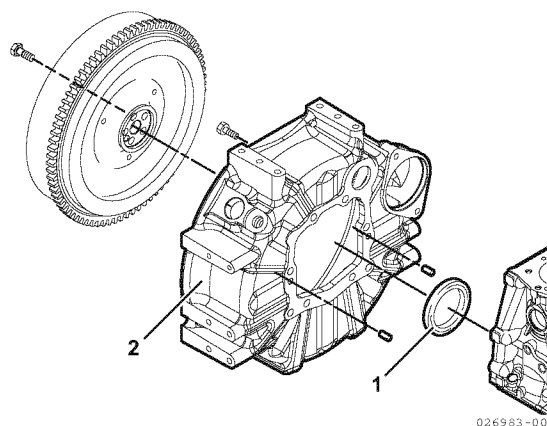

Figure 6-59
3. Remove the rear oil seal (Figure 6-59, (1)) from the flywheel housing (Figure 6-59, (2)).